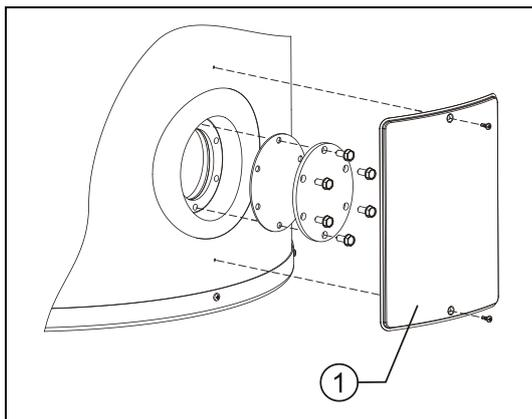

Figure 1. Example of a cleaning opening
3. Remove the cover plate from the cleaning opening on the outer jacket, see figure 1.